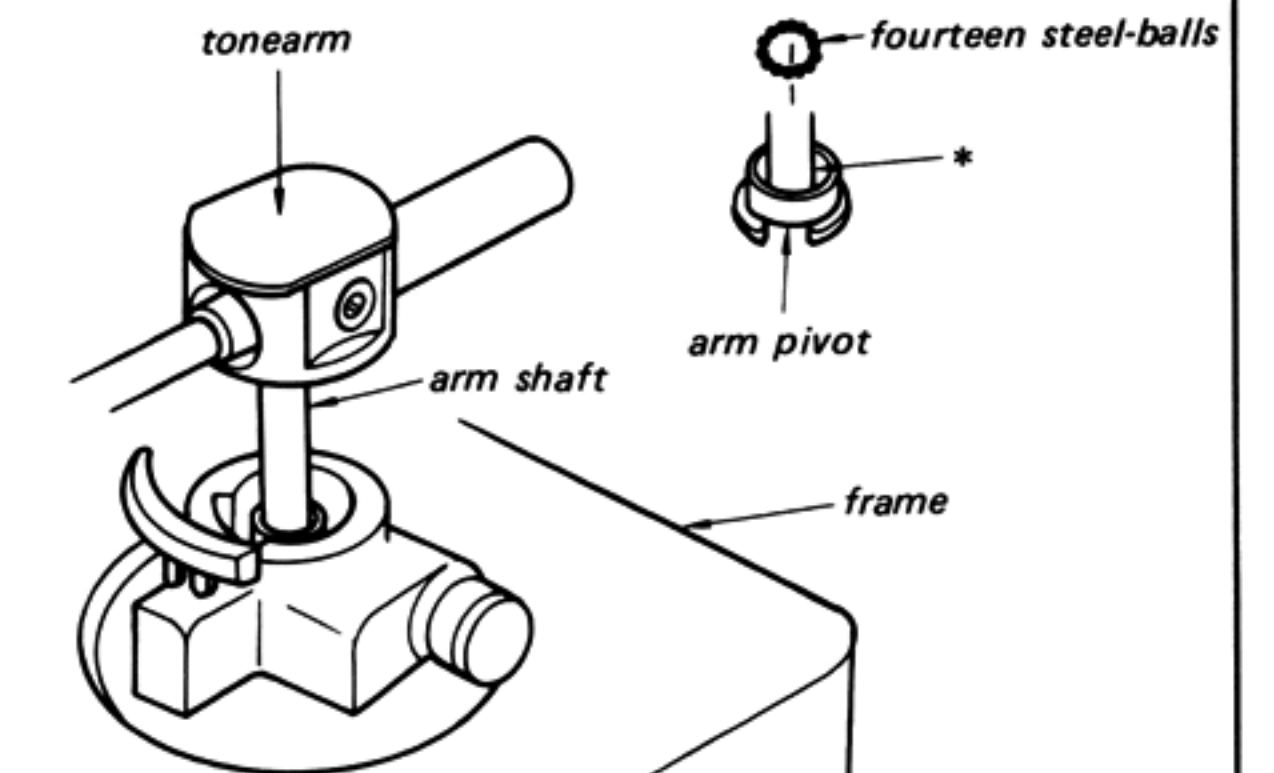

Fig. 3-7
1. Clean the portion of the arm pivot marked by \* in Fig. 3-7 with an alcohol-moistened swab.